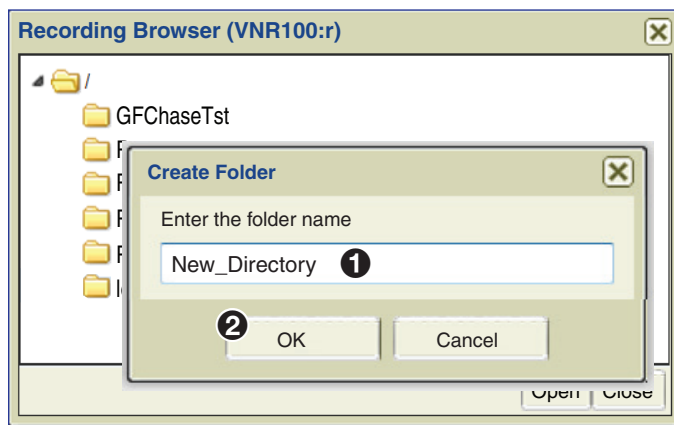

Figure 91. Create Directory, Enter Name
Select the root folder (①), <right-click> on the folder, then click **Create Folder** (②). The **Create Folder** dialog box opens (see figure 91).
5. Enter the directory name (1).